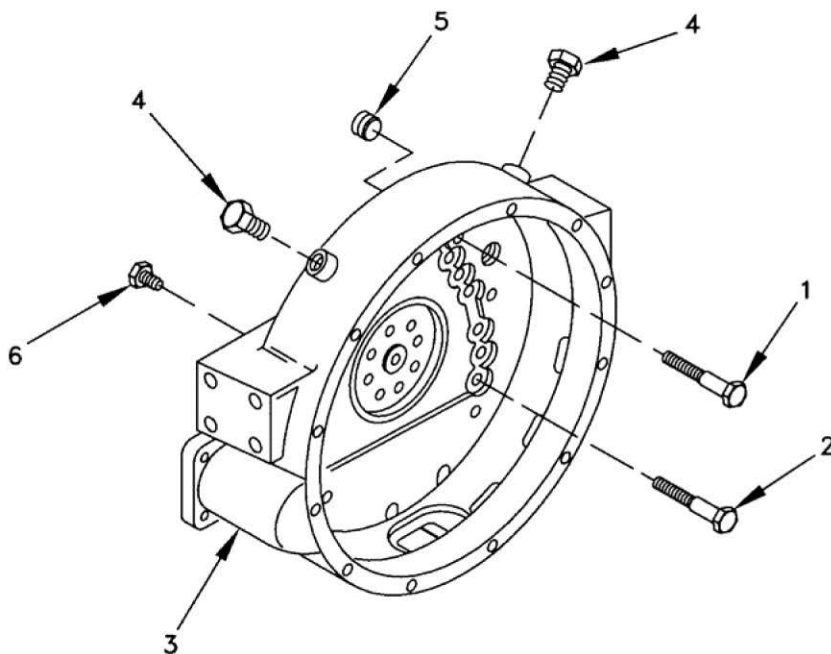

Figure 1. Flywheel Housing.
1. Remove two screws (Figure 1, Item 1), ten screws (Figure 1, Item 2), and flywheel housing (Figure 1, Item 3).
2. Remove two plugs (Figure 1, Item 4), pipe plug (Figure 1, Item 5), and plug (Figure 1, Item 6).
1. Install plug (Figure 1, Item 6), pipe plug (Figure 1, Item 5), and two plugs (Figure 1, Item 4).
2. Apply sealing compound to contact surface of flywheel housing (Figure 1, Item 3) and install flywheel housing, ten screws (Figure 1, Item 2), and two screws (Figure 1, Item 1).
3. Torque two screws (Figure 1, Item 1) to 33-47 lb•in (45-65 N•m). Torque ten screws (Figure 1, Item 2) to 98-144 lb•ft (130-190 N•m).